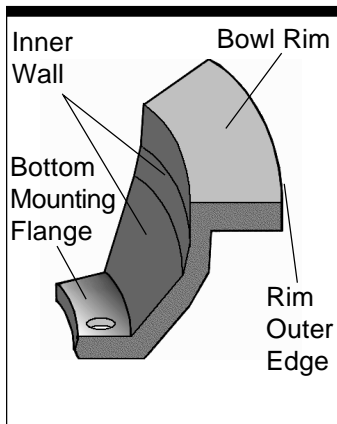

Figure 5-2.
- ▶ If machining enlarges the inner wall of the bowl, you may need to replace the flexible disc with a larger one (custom-sized) from your direct supplier (see Figure 5-2). If you do not obtain a larger flexible disc, the gap between the flexible disc and the inner wall of the bowl may pinch or snag product.